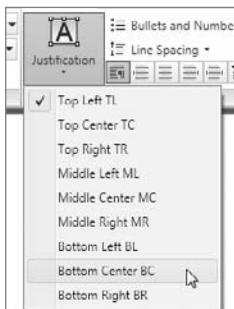

FIGURE 12.70 Setting the Justification for the center line symbol
- With the text still highlighted, click the Justification button in the Paragraph panel. From the fly-out menu that appears, click Bottom Center (see Figure 12.70).